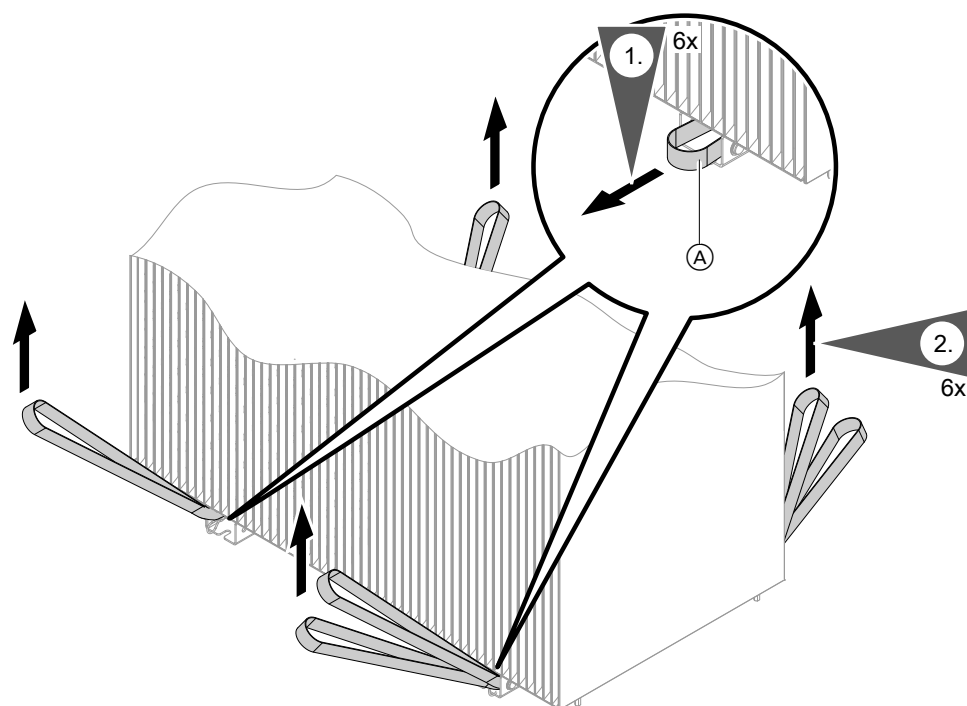

Fig. 7
- Due to the uneven weight distribution, there are 4 transport aids attached to the right-hand mounting rail for outdoor units with 2 fans: See Fig. 7.